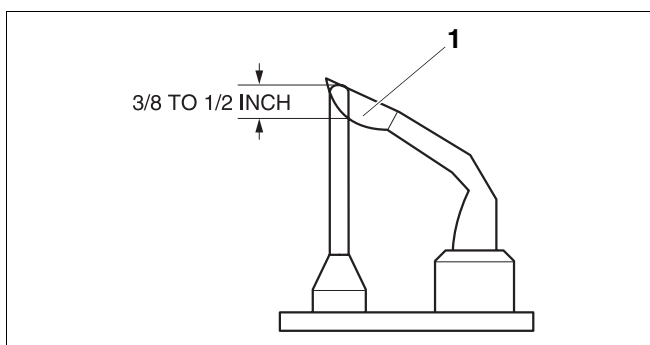

Fig. 43 Correct flame configuration
7. Inspect the pilot flame through the sight glass (→ Fig. 43).